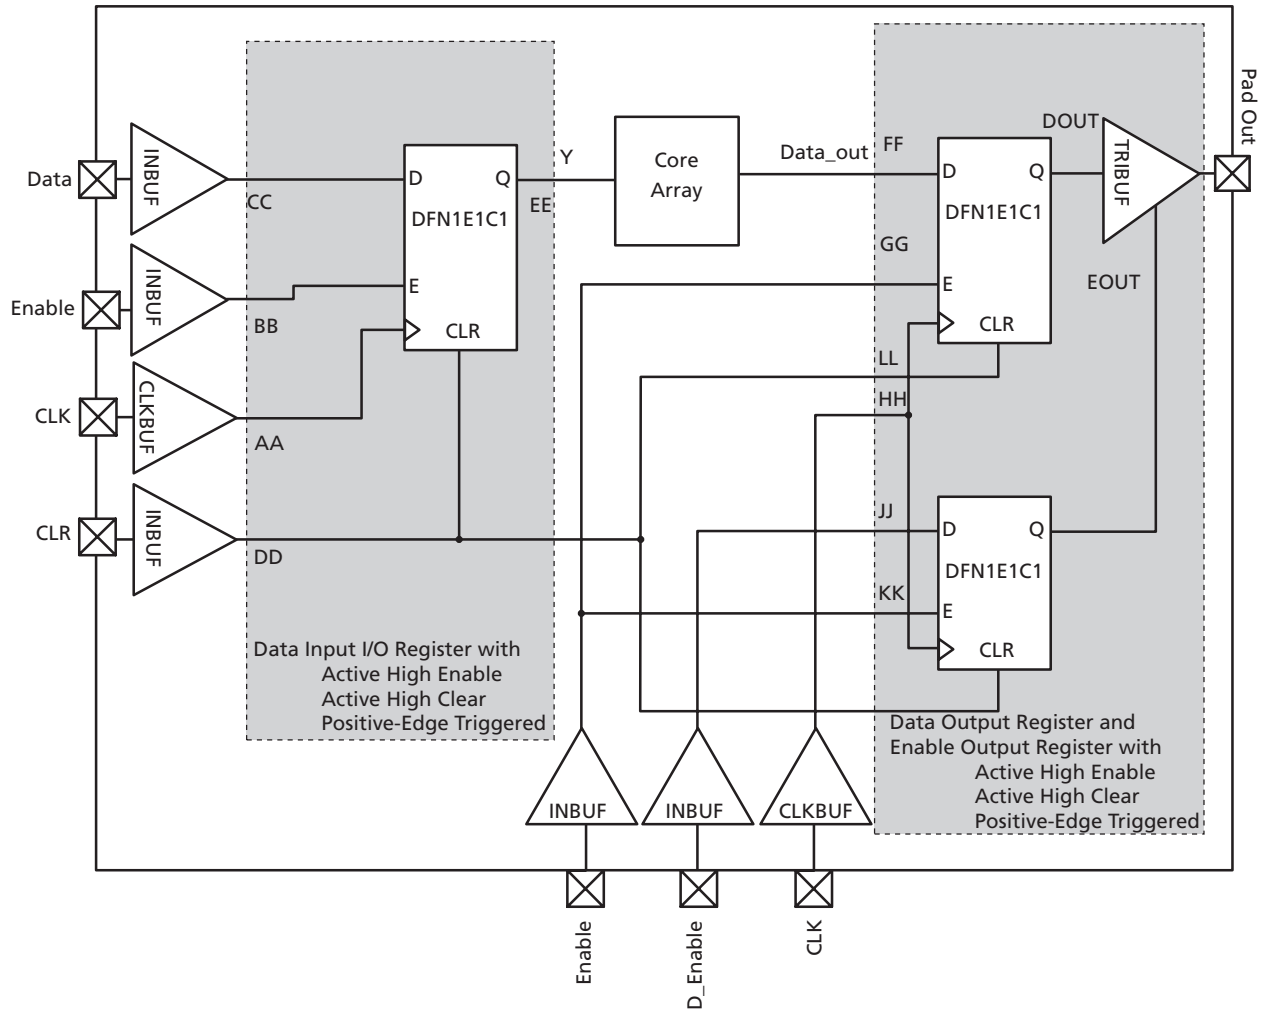

Figure 2-15 • Timing Model of the Registered I/O Buffers with Synchronous Enable and Asynchronous Clear
* See Figure 2-15 on page 2-64 for more information.